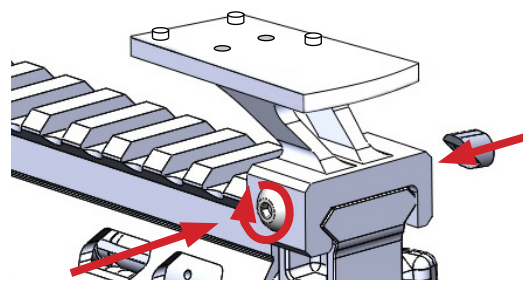

Fig. a-1
1. To mount the DTRO to the MDR using the DTRO mount, begin by loosening the rail attach point screw on the DTRO mount with the supplied 2.5mm hex key. Then place the DTRO mount on the MDR gas block rail section with the DTRO mount angled back toward the shooter and tighten the DTRO mount screw with a torque wrench to 30 in/lb. (Fig. a-1)